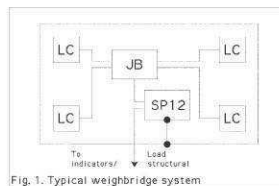

Fig. 1. Typical weighbridge system
Load cells (LC) are sometimes used individually, though typically several load cells from part of a weighing system. Field wiring is usually brought together at a field junction box (JB), where individual conditioning resistors balance particular cells. The SP12 does not affect this system calibration, nor the accuracy claims of most system suppliers. The SP12 connects in series with the system wiring as indicated in fig 1. In those few systems where load cells are individually wired back to the indicating electronics, separate protectors are necessary per load cell.